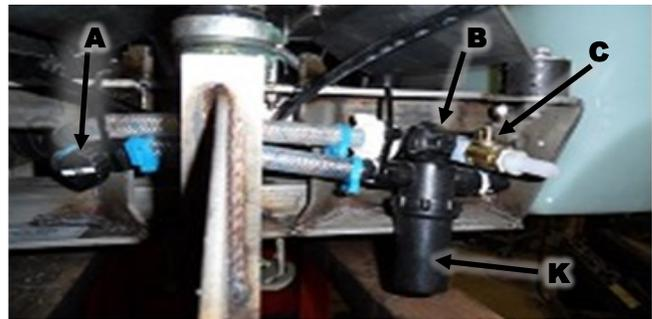

FIGURE 14, Unloader and Shutoff
The spray pattern and spray rate are controlled by the engine speed, pump pressure, and the nozzle orifice. Referring to **FIGURE 14:** A Pressure Unloader Valve (A) at the lower right rear of the front frame controls pump pressure. There is a Suction Shutoff Valve (B) located at the lower left rear of the front frame. The Drain Valve (C) can be used to flush the spray system, drain the tanks or fill the Spot Sprayer bottle (included). The Tanks are connected together by common Suction and Return flow plumbing to provide a total capacity of **12 U.S. GALLONS** (45.4 liters). **NOTE:** The Triumph is not capable of selectively drawing from only one Tank. Referring to **FIGURE 15:** There is a pair of low drift nozzles (broadcast (D) & trim (E)) for use while in **LOW GEAR**, and a second pair of low drift nozzles (broadcast (F) and trim (G)) for use in **HIGH GEAR**. [If the Half Gallon Nozzle Kit is installed, the **LOW GEAR** Broadcast Nozzle is replaced by a second **HIGH GEAR** Nozzle and
Referring to **FIGURE 16:** A Spray Lever (H) with lock is mounted on the left handle which allows the operator to spot spray the liquid product while blanket covering the area with granular product. Dashboard mounted Spray Selector Valves (I) control which selects High gear Broadcast and Trim Nozzles. Spray Valve (J) selects Low gear Broadcast and Trim Nozzles. Referring to **FIG. 14:** The Line Strainer (K) and Valve (A).